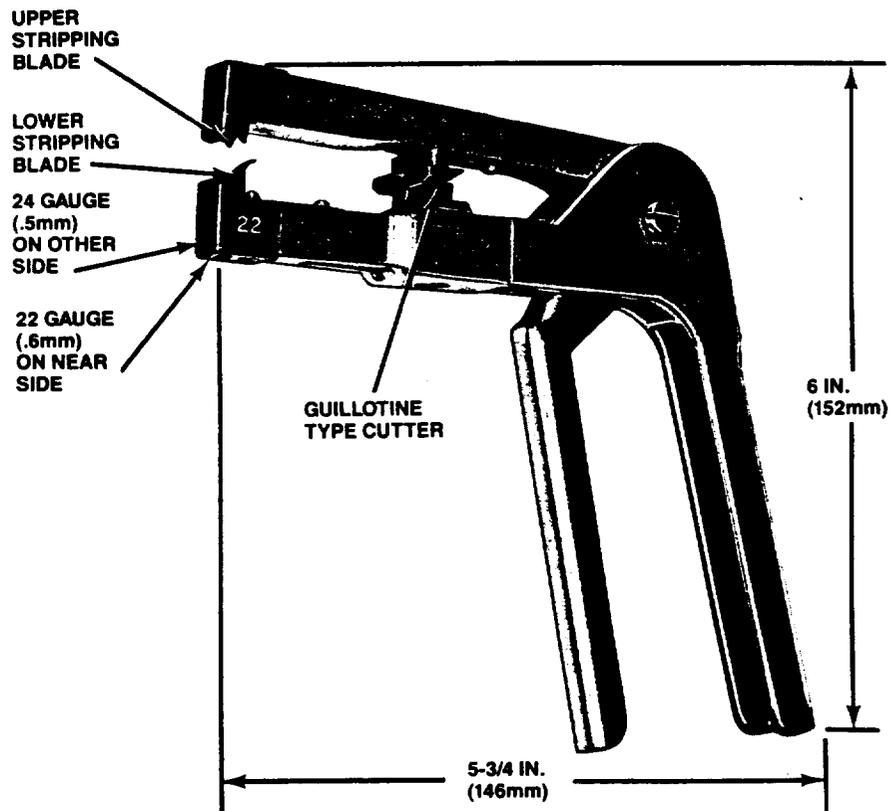

Figure 10. KS-16902, L1 Stripper
2.16 The KS-16902, L1 stripper (Comcode 996780607, Figure 10) is a pistol-grip tool used for cutting and stripping 22- and 24-gauge (0.6 and 0.5 mm) PVC-, IPVC-, BU-, or U-type wire for wire-wrap operations.